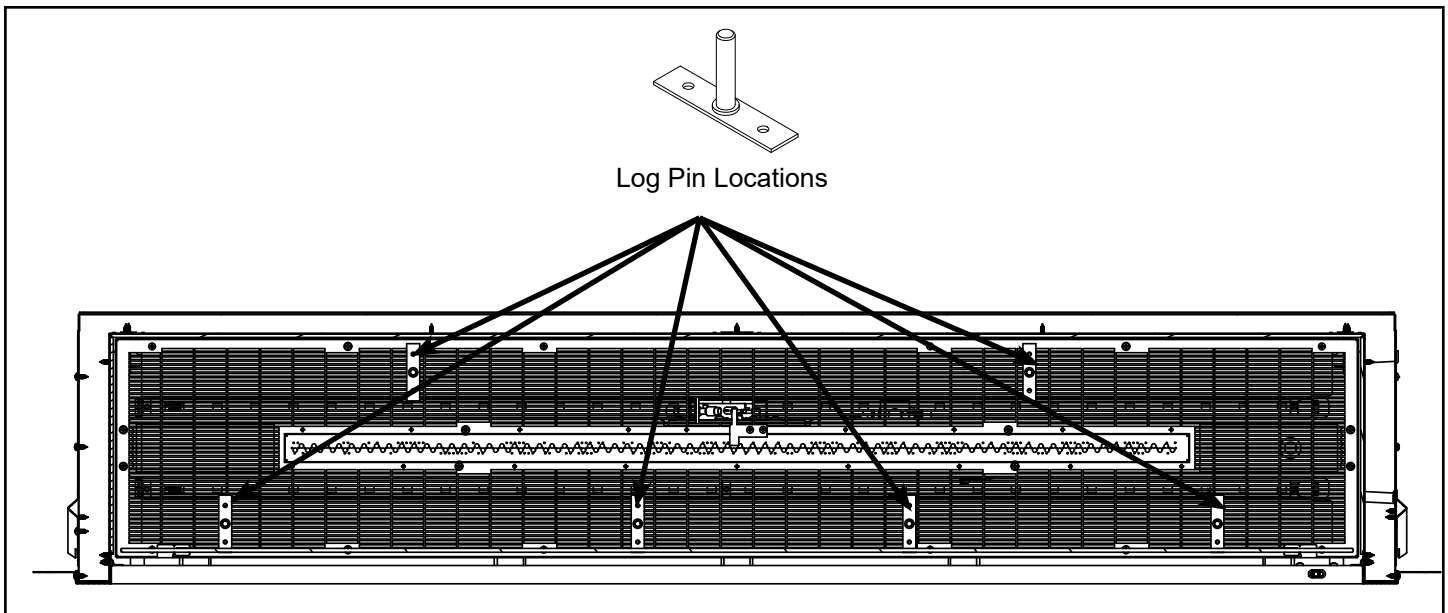

Figure 7.7 – Log Pin Placement for AVFL60N(P)IF AND ODLANAIG-60
- Mount the six log support pin brackets using mounting holes and screws provided in locations indicated in Figure 7.7 for the front logs and rear log. Only one hole of the pin bracket will be used to secure the pin to the